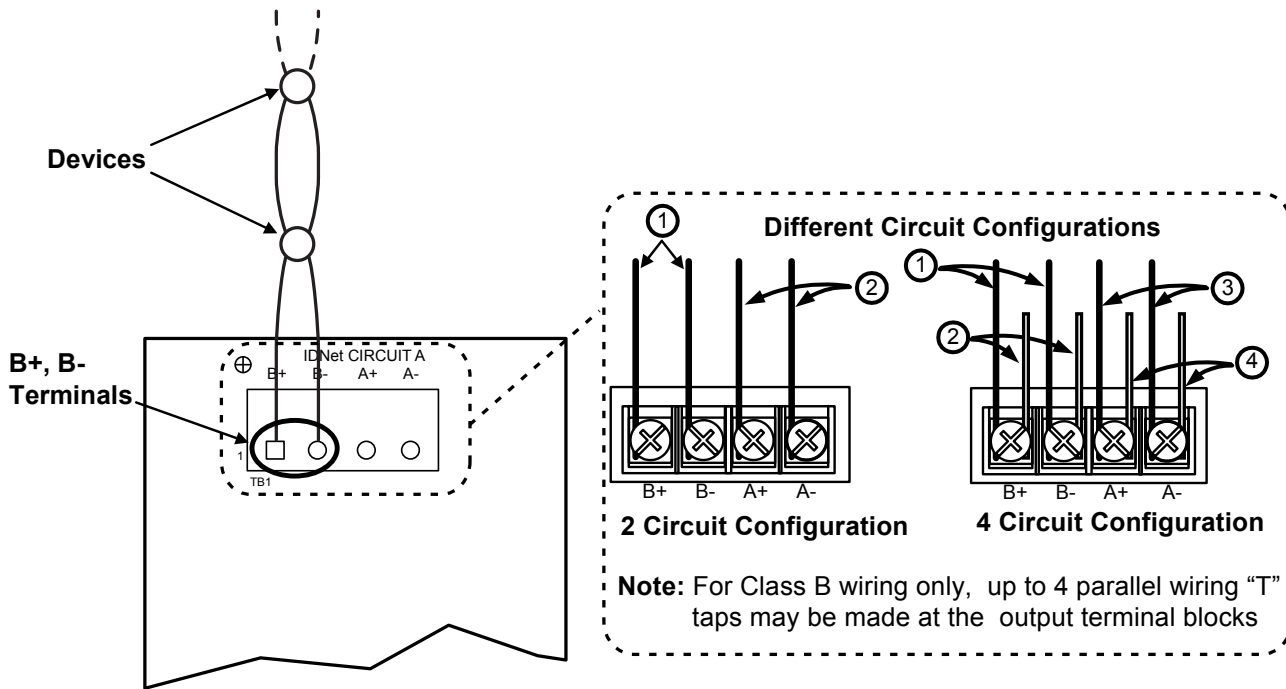

Figure 9: IDNet Loop Class B Wiring
2. Route wiring from the Primary Terminals (B+, B-) to the corresponding inputs on the first device. It is possible to add up to 4 circuits per IDNet loop on the terminal block when using Class B wiring. See Figure 9 for the diagram.
3. Route wiring from the first device to the next as in/out as shown in Figure 9. Repeat for each device.